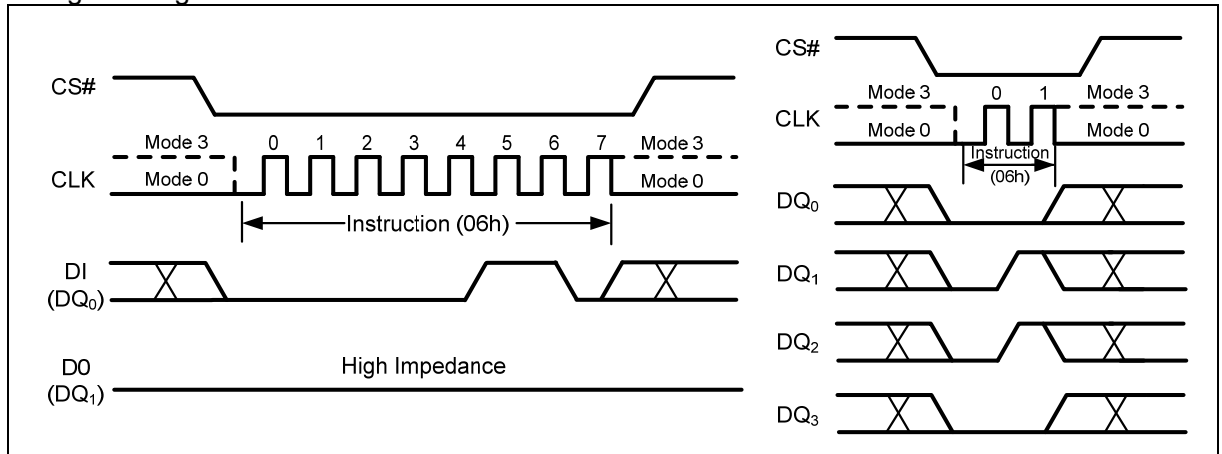

Figure 7 Write Enable Instruction for SPI Mode (left) or QPI Mode (right)
Instructions vary in length from a single byte to several bytes and may be followed by address bytes, data bytes, dummy bytes (don't care), and in some cases, a combination. Instructions are completed with the rising edge of edge CS#. Clock relative timing diagrams for each instruction are included in Figure 7 through Figure 68. All read instructions can be completed after any clocked bit. However, all instructions that Write, Program or Erase must complete on a byte boundary (CS# driven high after a full 8-bits have been clocked) otherwise the instruction will be ignored. This feature further protects the device from inadvertent writes. Additionally, while the memory is being programmed or erased, or when the Status Register is being written, all instructions except for Read Status Register will be ignored until the program or erase cycle has completed.
The Write Enable (WREN) instruction (Figure 7) sets the Write Enable Latch (WEL) bit in the Status Register to a 1. The WEL bit must be set prior to every Page Program, Quad Page Program, Sector Erase, Block Erase, Chip Erase, Write Status Register and Erase/Program Security Sectors instruction. The Write Enable (WREN) instruction is entered by driving CS# low, shifting the instruction code “06h” into the Data Input (DI) pin on the rising edge of CLK, and then driving CS# high.